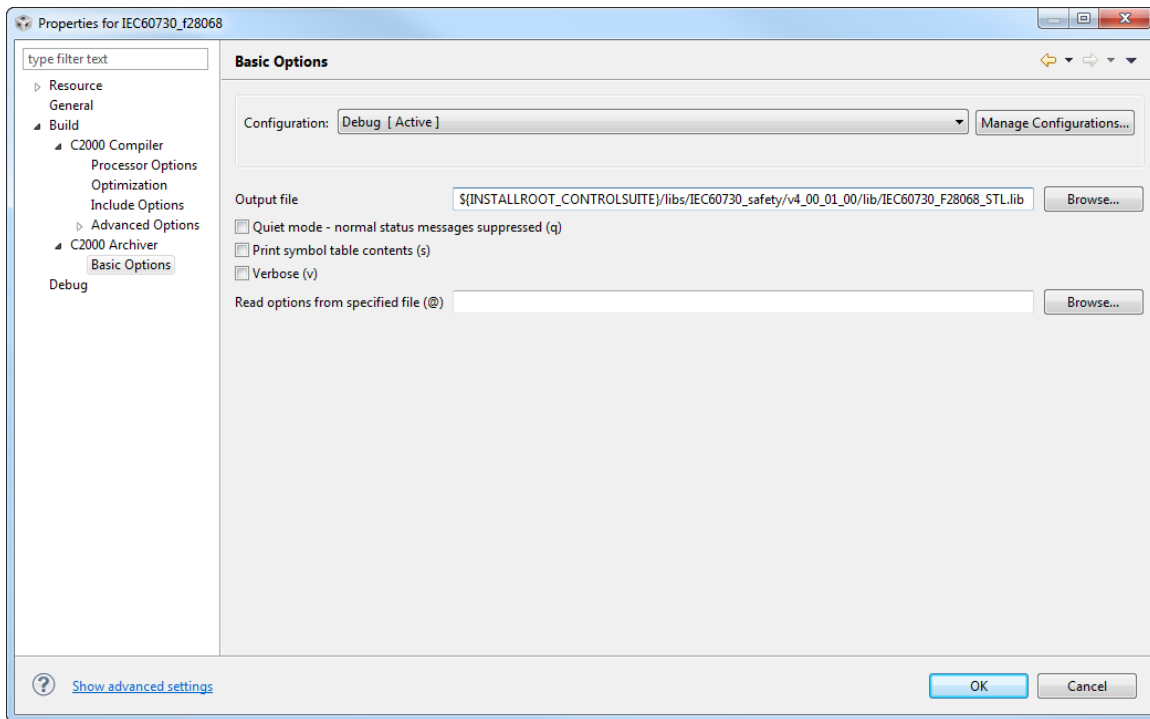

Figure G.3: Setting Library Output name and Directory
8. Click on **Projects** menu > click on **Properties** > expand to **Build** > **C2000 Archiver** > **Basic Options**. In the **Basic Options** in **Output file** text box type in the name of the library and the directory to place the library. For instance if building for f28068, enter **"\$(INSTALLROOT_CONTROLSUITE)/libs/IEC60730_safety/v4_00_01_00/lib/IEC60730_F28068_STL.lib"** > click **OK**. This will set the name of the library and the directory it will be placed after it is built. See figure G.3.